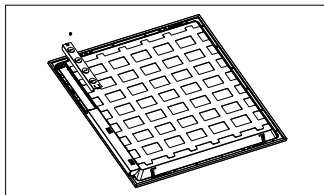

Fig. 1
- (1). Remove the screw and the wiring box cover from the back side of the luminaire. (Fig. 1)